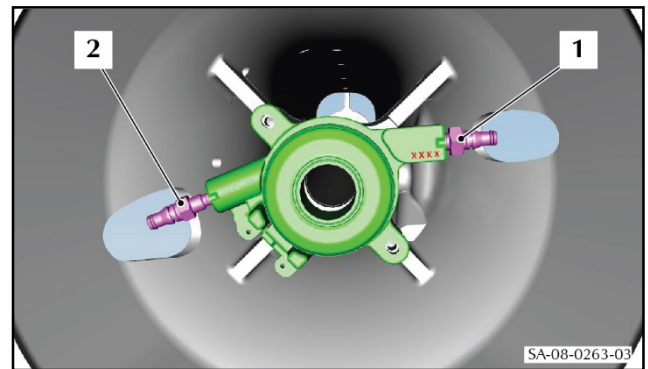

Figure 6
- 8. Torque the fluid pressure connector (1) to 17.5 Nm (refer to Figure 6).
- 9. Torque the fluid bleed connector (2) to 7.5 Nm.